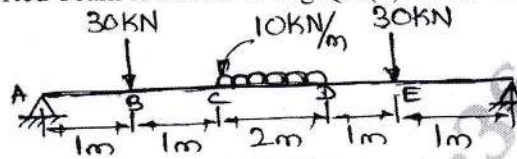

Fig.Q.6(b)
- b. A simply supported beam is shown in Fig.Q.6(b). Draw the SFD and BMD.